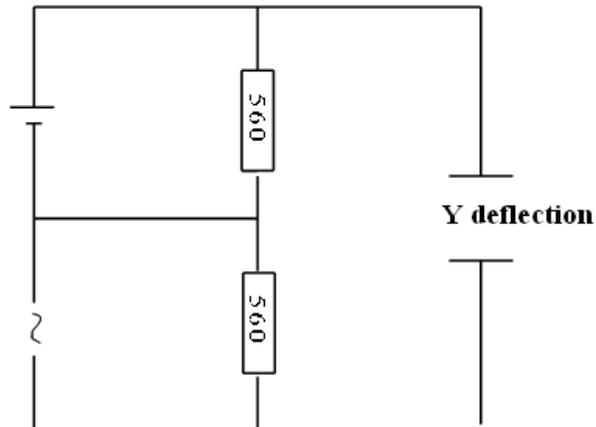

Figure 4. The circuit for testing AC/GRD/DC positions of the oscilloscope
- 3. Cumulative potentials.** Connect the AC source and the flat battery used in the previous task as shown in the arrangement of figure 4. Try out different positions of the AC/GRD/DC switches. What happens and why? Sketch a figure in each case.